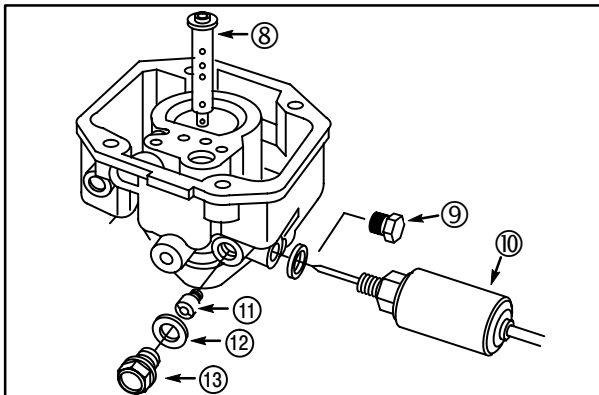

Fig. 100
4. Remove anti-afterfire solenoid (10) or plug (9), **Fig. 100**.
5. Remove fixed jet plug (13) and washer (12).
6. Remove fixed main jet (11) with Jet Screwdriver #19062.
7. Remove emulsion tube (8).